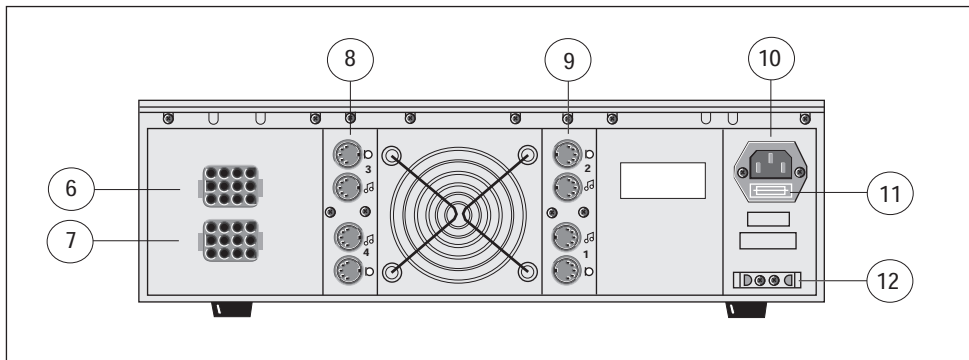
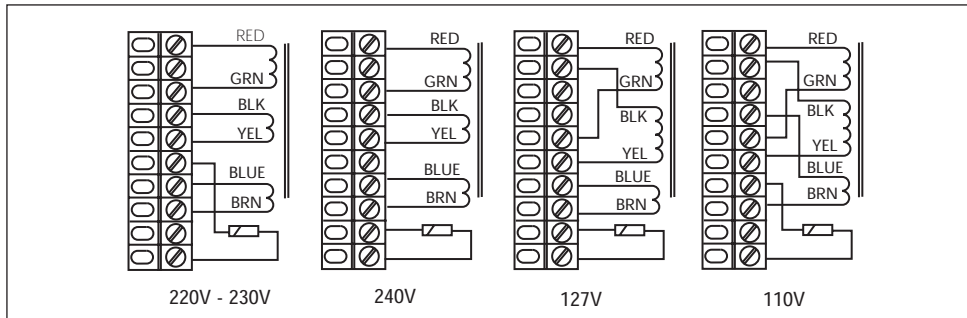

Fig. 2 - Rear view
Fig. 4 - Mains connections
The unit as supplied is suitable for mains voltages of 220 - 230 V AC. For adaption to mains voltages of 110, 127 and 240 V, the required voltage has to be set accordingly. To change the voltage, unplug the long grey coloured screw connector from its connector block (fig. 3.3), and rewire it for the appropriate voltage (fig. 4). Push the connector block firmly back into its place. For mains voltages of 110 V and 127 V, the 4 amp (T) mains fuse built into the standard "Europlug" has to be replaced by one with a value of 8 amp (T) (see fig. 2 10 and 2.11). To remove the mains fuse, first remove the mains power lead from the socket at the rear of the unit. Carefully insert a medium sized screwdriver under the fuse cover's small lip (nearest the socket pins), and gently twist the screwdriver to lever the fuse holder out.
Mate-N-Lok sockets are mounted on the rear panel, (fig. 2). These are provided with corresponding plugs, and serve primarily as transformer output connections to a variety of loudspeakers. Socket X5 (fig. 2.6) is for outputs of amplifiers 2 and 3. Socket X6 (fig. 2.7) is used for the outputs of amplifiers 1 and 4.